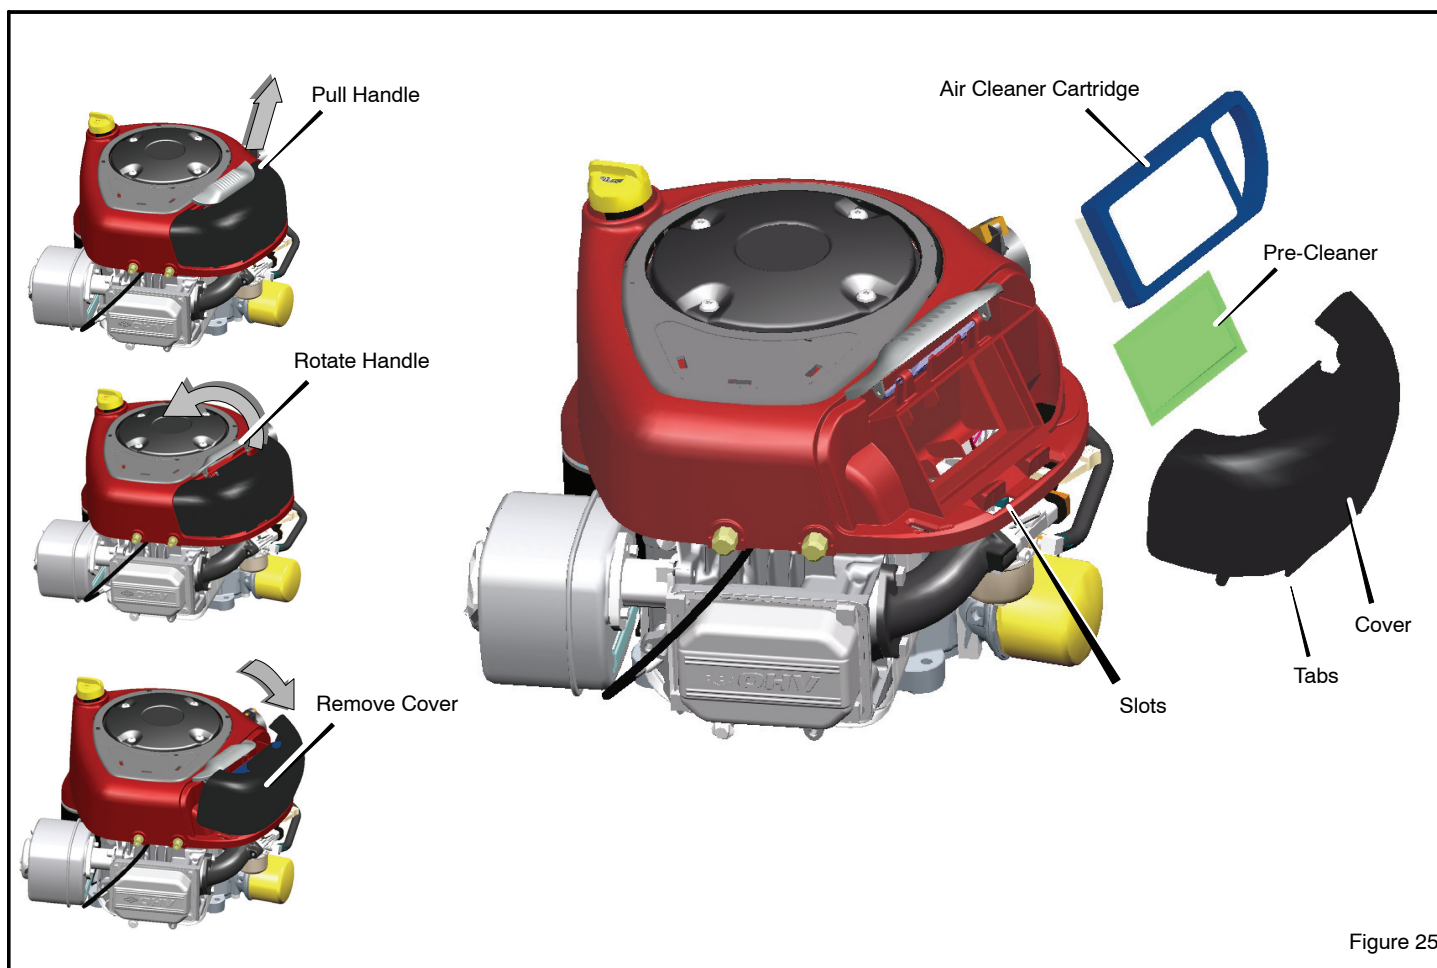

Figure 25
1. Pull up on the **handle** for the air cleaner cover. Rotate the **handle** toward the engine (Figure 25).